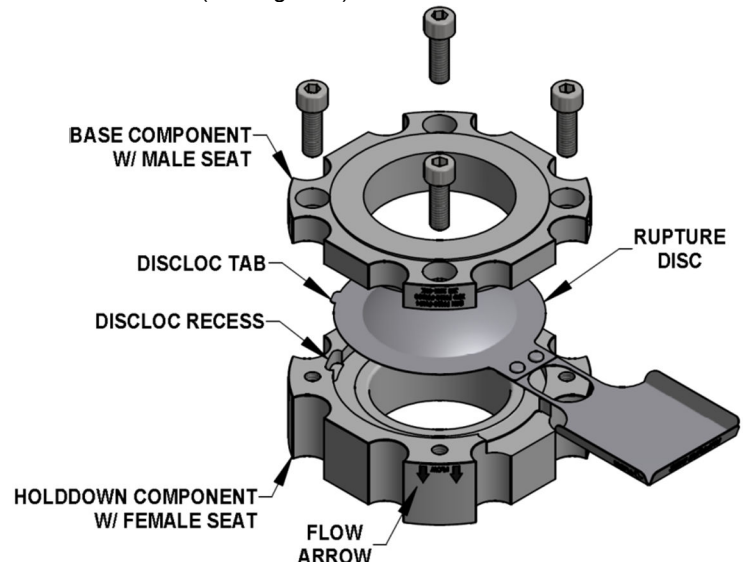

Figure 6 – Pre-torqueable Holder (TQ+ configuration shown)
9. If holder configuration is TQ or TQ+, lubricate uncoated capscrews with a light oil such as SAE grade 20. Lubricate both the threads and the underside of the head. Install lubricated capscrews and tighten until recessed and snug in the holder (see Figure 6).